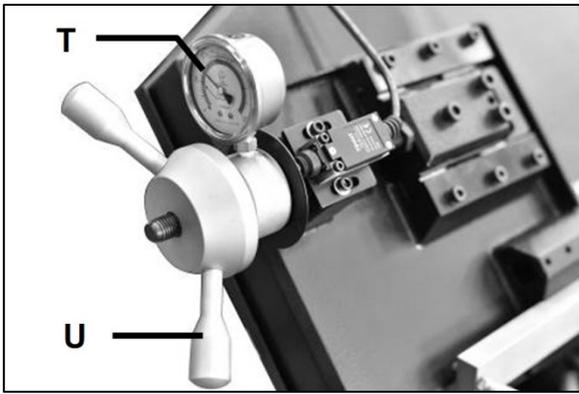

Figure 8-5: Blade tension gauge
Blade tension is indicated on the Blade Tension Gauge (T, Fig 8-5). Turn the tension lever (U) clockwise until proper blade tension is reached (green colour).